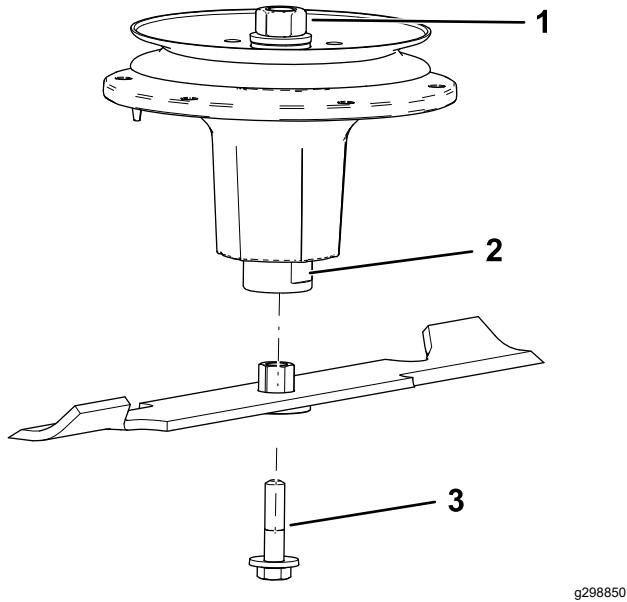

Figure 83
2. Install the bushing/blade assembly into the spindle shaft (Figure 83).